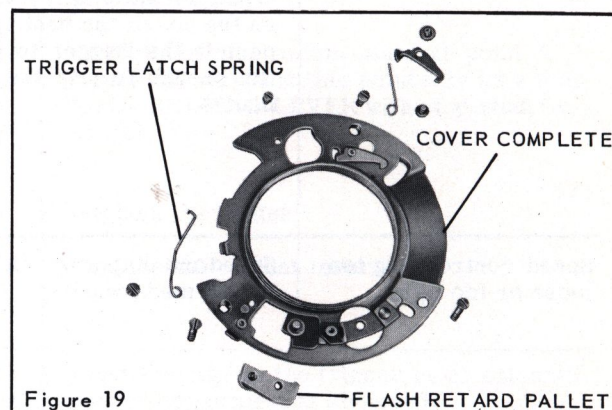
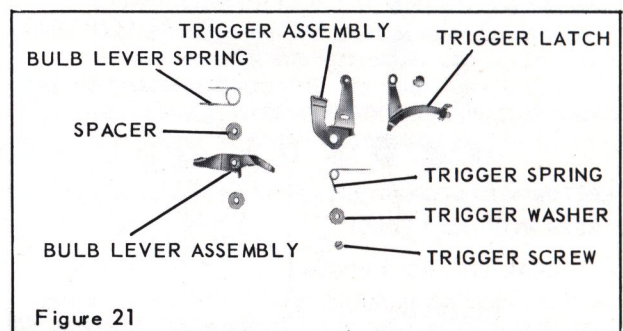
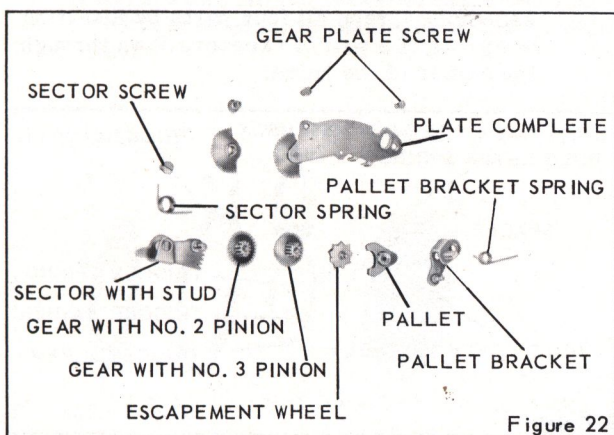

Figure 19
Figure 21
Figure 22
It may be necessary to reduce the tension on the TRIGGER LATCH SPRING, figure 19.
The FLASH RETARD PALLET, figure 19, is not meshing properly with the winding lever.	With special Tool No. 657, turn the eccentric post so that the pallet will mesh more firmly in the teeth of the winding lever. Make certain the post is tight on the cover after making this adjustment.
1. Speed control ring, with shutter in tripped position. Be sure the projecting lug on the BULB LEVER ASSEMBLY, figure 21, the studs on the retarding SECTOR WITH STUD, figure 22, and the PALLET BRACKET with stud assembly are resting against the inside edge of the speed control ring and are not underneath the ring.
2. Speed and diaphragm index plate by lining up the three projections in the center of the plate with the three cutouts on the outside edge of the central collar on the COVER COMPLETE, figure 19. Turn the plate clockwise until it is properly positioned.
CAUTION: Do not touch the TRIGGER LATCH, figure 21, as it may release the winding gear spring tension.
4. Trip the shutter and lightly hold the winding lever down around the central collar on the cover. As the shutter is tripped, the end of the latch should fall into the slot on the cover. If it does not, add more tension to the TRIGGER LATCH SPRING, figure 19. Check for a bind between the trigger latch and the TRIGGER ASSEMBLY, figure 21, at the point of attachment. The winding lever should contact the trigger latch, push the latch out of the slot in the cover, and open the shutter blades. After the shutter has been tripped, the latch should return to rest on the ledge just above the small slot in the cover.
3. TRIGGER LATCH SPRING, figure 19.
4. Lift up on the loose end of the TRIGGER LATCH, figure 21, sufficiently to clear the COVER COMPLETE, figure 19. Move the loose end of the latch until it is clear of the CASE, figure 27.
5. FLASH RETARD PALLET, figure 19.
5. TRIGGER SCREW, figure 21, TRIGGER SPRING, and TRIGGER WASHER.
4. Retard gear PLATE COMPLETE, figure 22.